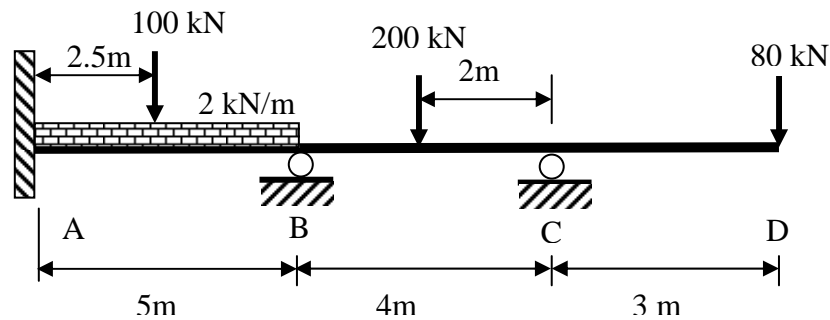

Figure 3
3. a) Figure 3 shows a continuous beam carrying a uniformly distributed load of 2kN/m and point load of 100 kN on span AB while two point loads of 200kN and 80 kN on span BC and CD, respectively. Support A is fixed, support B and C are rollers and cantilevered end at D. Using moment distribution method, calculate internal moments at all supports of the beam. Assume value of EI is constant and neglect axial deformation. Hence, sketch the deflected shape and bending moment diagram of the beam.
3. b) If point D for the continuous beam in Figure 3 is roller, sketch the new bending moment diagram and deflected shape of the beam.